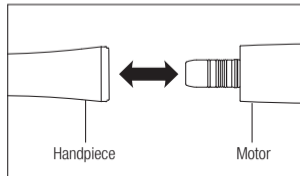

Fig. 1
- 1) Insert the handpiece direct into the motor (Fig. 1).